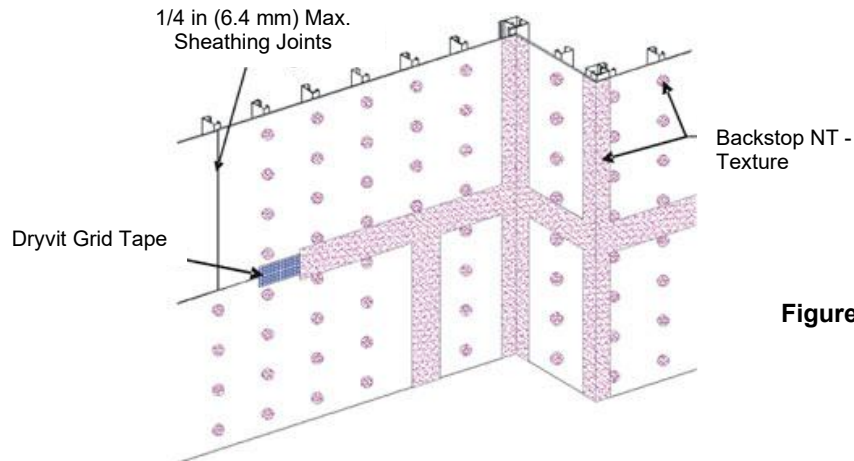

Figure 15
- Apply Dryvit Grid Tape as described in Section VI.F.1 above. Mix the Backstop NT - Texture material as described in Section III.B.2. Using a stainless steel trowel or spatula, apply a layer of Backstop NT - Texture over the Dryvit Grid Tape and spot all fastener heads – Figure 15. **NOTE: Dryvit Grid Tape is not necessary over fastener heads.**